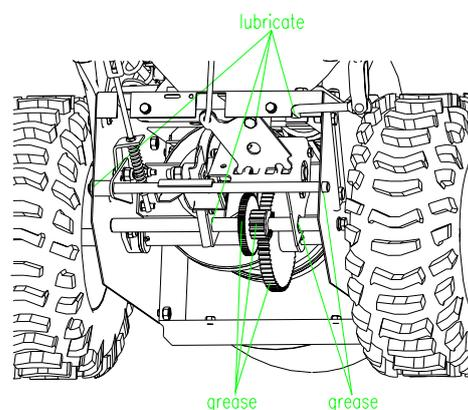

FIG 25
**6.8.4** Lightly lubricate the snow thrower with light oil, wipe up any excess oil. (FIG 25)